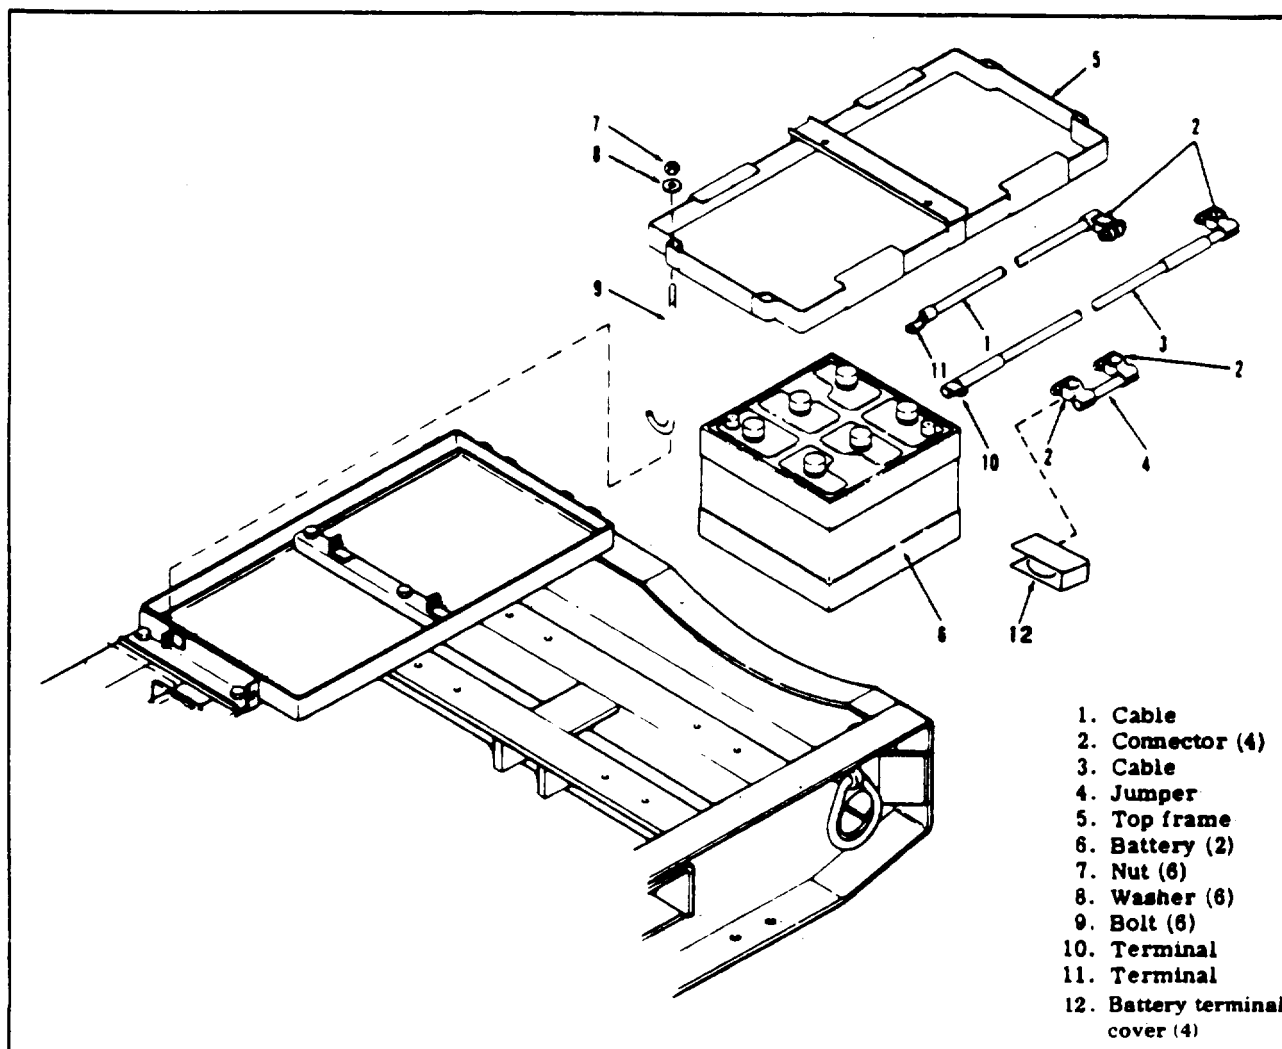

Figure 3-2. Battery Assembly
a. Inspect (see figure 3-2). On generators equipped with acoustic suppression (ASK), remove batteries access door.
(1) Inspect battery cable terminal connectors (2), (10) and (11) for corrosion, deterioration, or physical damage. Inspect battery terminal covers (12) for proper installation and physical condition. Replace if cracked, split or torn.
(2) Inspect cables (1), (3) and (4)) for breaks, damage and deteriorated insulation.
(3) Inspect battery top frames (5), bottom frame (12), and tray (13) for corrosion or physical damage. Check to see that batteries are held securely in place and that all attaching hardware nut (7), washer (8), screw (14), washer (15) and bolt (9) are securely in place.